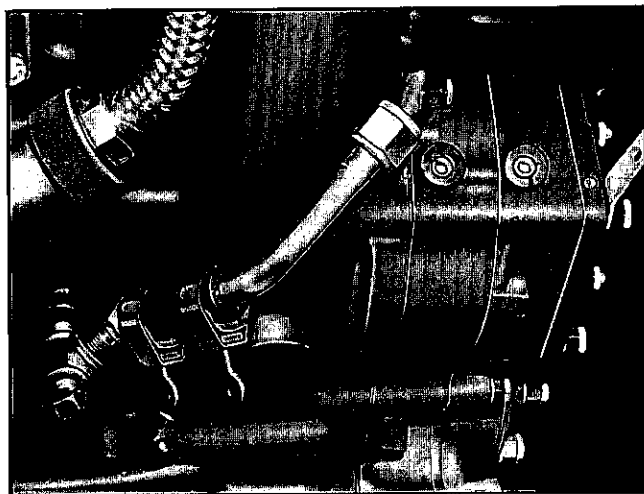

Figure 96—Regulator Oil Drain Tube Installed—
(6) Remove the $\frac{3}{8}$ " N.P.T. plug in the oil drain hole located in the bottom of the regulator unit at the front. The 45° elbow which was removed from the drain hole of the replaced regulator is then installed with the elbow pointing forward and about 45° out from a fore and aft centerline. Use standard pipe thread compound on elbow threads when installing. Attach the oil drain tube union nut to the $\frac{3}{4}$ -16 thread end of the elbow and tighten. Check the security of the oil drain tube hose clamps and re-tighten if necessary. (See Fig. 96.)